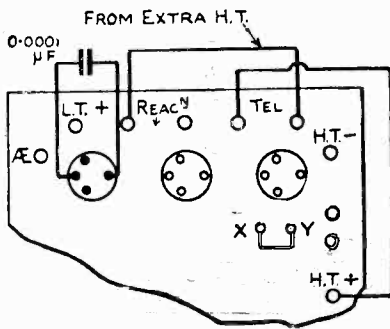
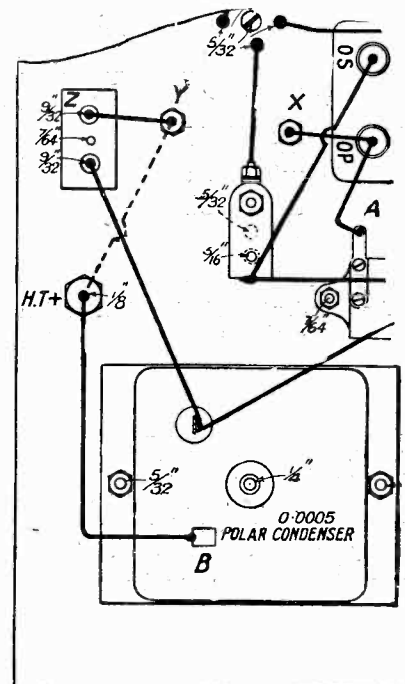

Fig. 1.—How to cut out first valve.
Fig. 2.—Alteration of wiring.
(3) H.F. AND DETECTOR.—Switch off master rheostat; remove L.F. valve (right-hand valve on panel); disconnect extra H.T. + from phones + terminals (it is of utmost importance that this should be done before any fresh wiring is added, otherwise you will short circuit your H.T. battery); connect by short lengths of flex the H.T. + terminal to phones +, and phones - to reactance + (see right hand portion of Fig. 1, which shows clearly the disconnected extra H.T. wire and the fresh external wiring).
(4) DETECTOR ONLY.—Combine instructions for (2) and (3).
Now there is one drawback to methods (3) and (4); the primary of the intervalve transformer is left connected in the H.T. circuit and in shunt with the phones. As the resistance of this primary is different from that of the 4,000 ohm phones or telephone transformer, you will be losing an appreciable portion of the plate current through the primary winding, and signal strength will suffer considerably. Therefore it is advisable to find a method of cutting this primary out when not using the L.F. valve. This can be done quite simply without upsetting the simplicity of the wiring of the set. Two fresh terminals are added to the panel in the positions shown in Fig. 1 (marked X and Y). Fig. 2 shows the alteration in the wiring (it is copied from p.123 of the December MODERN WIRELESS, and shows the bottom left-hand corner of the back of the panel). First, the wire connecting the O.P. of the transformer to the Polar condenser is cut and removed between the points A and B; the wire connecting Z and O.P. is also cut and the two ends of the wire soldered to X and Y; and finally a fresh wire (shown dotted) is soldered to H.T. + and Y. In practice, when the L.F. valve is functioning, X and Y should be connected by a short piece of wire or copper strap; this should be disconnected when the L.F. valve is taken out of its socket; by this
(2) DETECTOR AND L.F.—Switch off master rheostat; remove H.F. valve (left-hand valve on panel); connect a .0001 fixed condenser across plate and grid sockets of H.F. valve holder (see left-hand portion of Fig. 1). Clix terminals will be found to be of service here, as they fit tightly into the sockets. If you live within a few miles of a B.B.C. station you will find this a distinctly useful current—and valve-saver, as no diminution in signal strength will probably be noticed with the removal of the H.F. valve. The circuits will have to be retuned.